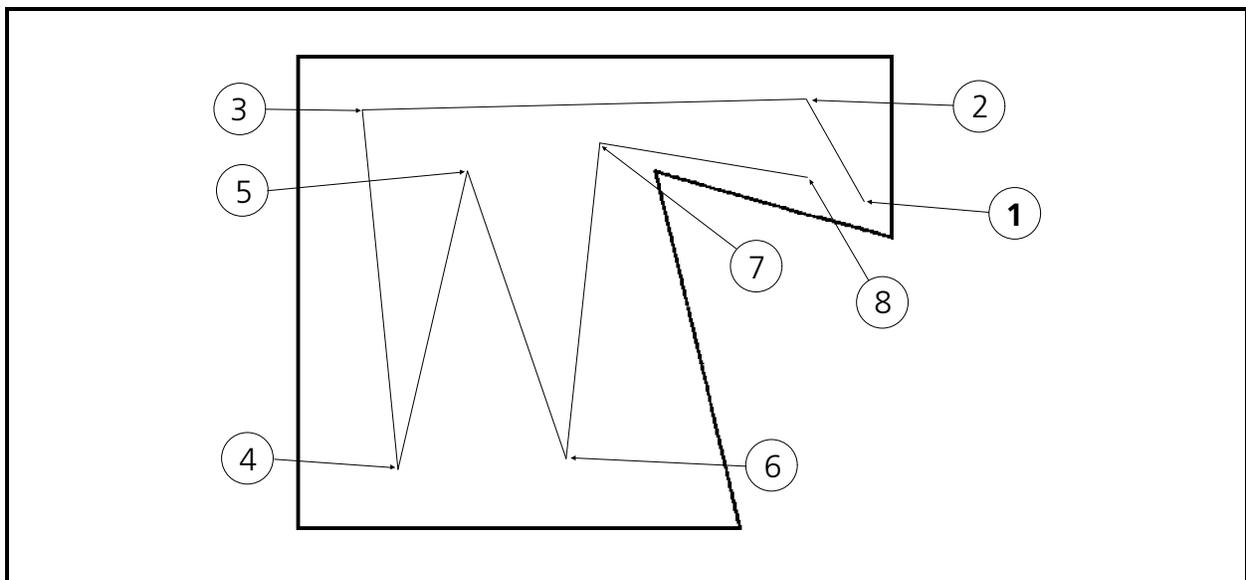

Figure 6-70
- #10 Always digitize the smaller fills first when digitizing a design that requires more than one fill to complete the total fill. An example of this rule is found with the first fill digitized with the irregular shaped block in Figure 6-70.
The image on the display will look similar to the illustration in Figure 6-70.
6. Click in the area in the shape identified as location 1 in Figure 6-70 to put a Mk1 at that location.
- To keep the material from puckering or migrating during the fill stitching, digitize a running stitch underlay by entering Mk1s at locations 2 through 8 as shown in Figure 6-70.